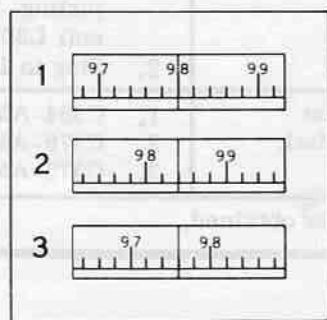
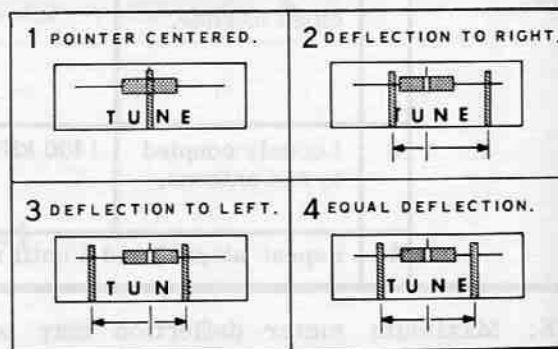

Figure 4-3
Figure 4-4
- () Connect the FM Signal Generator to the Receiver FM antenna terminals with a 300 Ω lead. Set the Generator frequency to 98 MHz (with no modulation), as shown in part 1 of Figure 4-3, with an unmodulated RF output signal of 100 μ v.
- () Tune the Receiver to this 98 MHz signal. Carefully adjust the Tuning knob until the pointer of the TUNE Meter is at the center mark on the TUNE Meter scale. (See part 1 of Figure 4-4).
The objective of the next two steps is to adjust the secondary of ratio detector transformer T302 so that an equal increase or decrease in frequency, will produce an equal left or right deflection of the pointer of the TUNE Meter. NOTE: The Signal Generator dial readings shown in part 2 and 3 of Figure 4-3, and the TUNE Meter scale readings shown in part 2 and 3 of Figure 4-4 are representative only. The actual Signal Generator dial setting and the actual TUNE Meter readings will probably be different than those shown in these Figures.
- () Increase the frequency of the Signal Generator until the TUNE Meter pointer moves away from the scale center line and then just starts back toward the center line. Note the reading of the Signal Generator frequency dial (see part 2 of Figure 4-3) at this point. Also note the amount that the TUNE Meter pointer deflects away from the center line (see part 2 or 3 of Figure 4-4).
- () Adjust the FM Signal Generator frequency an equal amount on the other side of the 98 MHz center frequency, and note how far the TUNE Meter pointer deflects on the other side of the center line (see part 4 of Figure 4-4).
- () Now adjust the bottom slug (the one nearest the circuit board) in ratio detector transformer T302 for an equal left and right deflection of the TUNE Meter pointer when the Signal Generator frequency is alternately changed equal amounts above or below the center frequency of 98 MHz (see parts 2 and 3 of Figure 4-3).